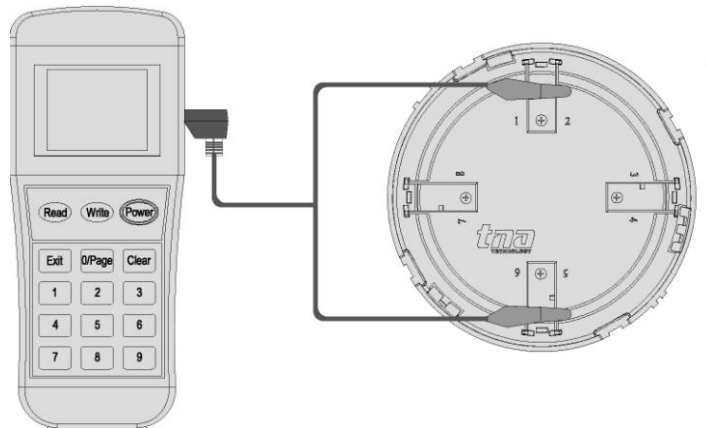

Figure 3
1. Connect the programming cable to 1 and 6 terminals (Figure 3). Press **“Power”** to switch on the unit.